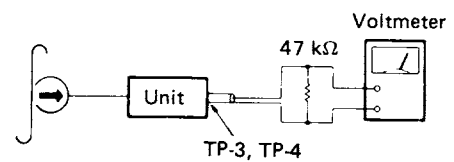

Fig. 10
- 1) Connect the test equipment as shown in Fig. 10.